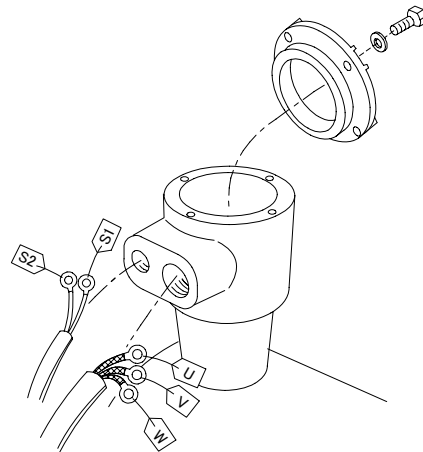

Fig.4-2 Marking to Electrical Wirings of the Motor
- (1) Apply marks U, V, W, S1, S2, etc. to the leads to be removed. After this marking, remove the motor wirings. (Refer to Fig.4-2.)